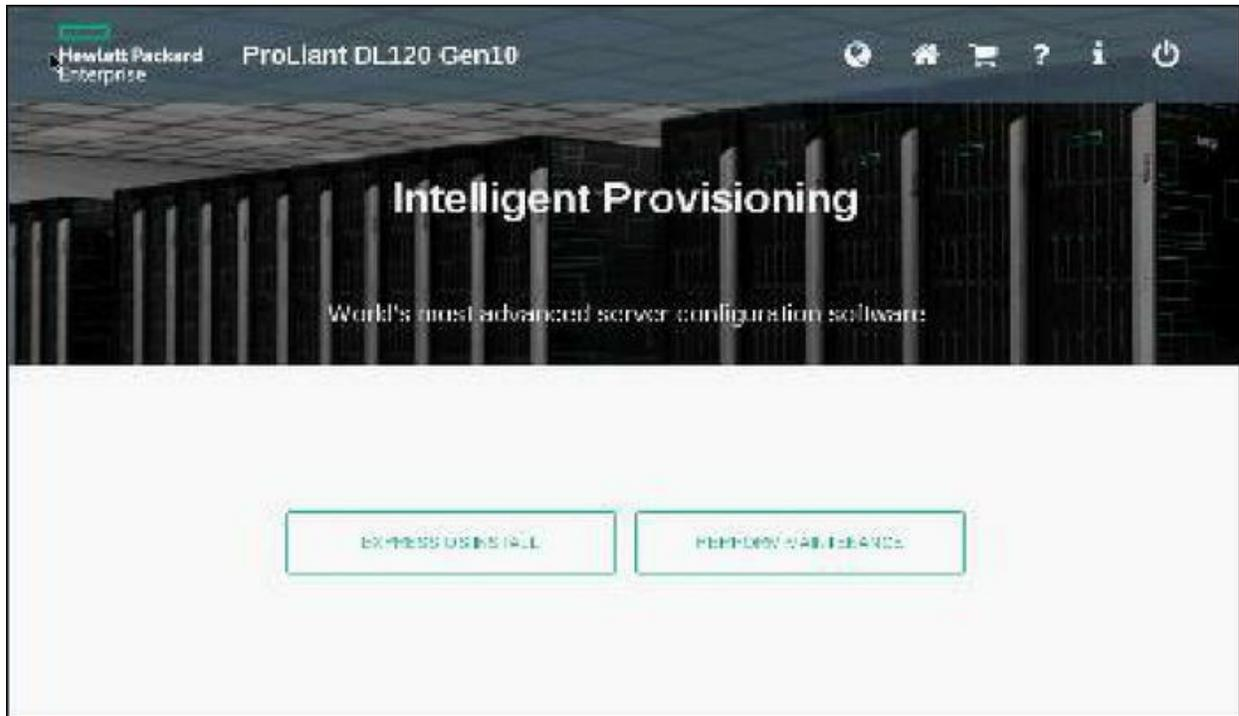

Figure 2-119 Server provisioning made easy
As seen in Figure 2-119, Intelligent Provisioning (IP) is a single-server deployment tool embedded in ProLiant Gen10 servers that simplifies ProLiant server setup, providing a reliable and consistent way to deploy ProLiant server configurations. It is a preboot startup and diagnostics tool embedded in all currently shipping ProLiant Gen9 and Gen10 servers. It accelerates system configuration, so your customers can quickly and easily get their system up and running. In addition, the built-in smart update capability recognizes if the system software is out of date and automatically downloads the latest update for your customer.